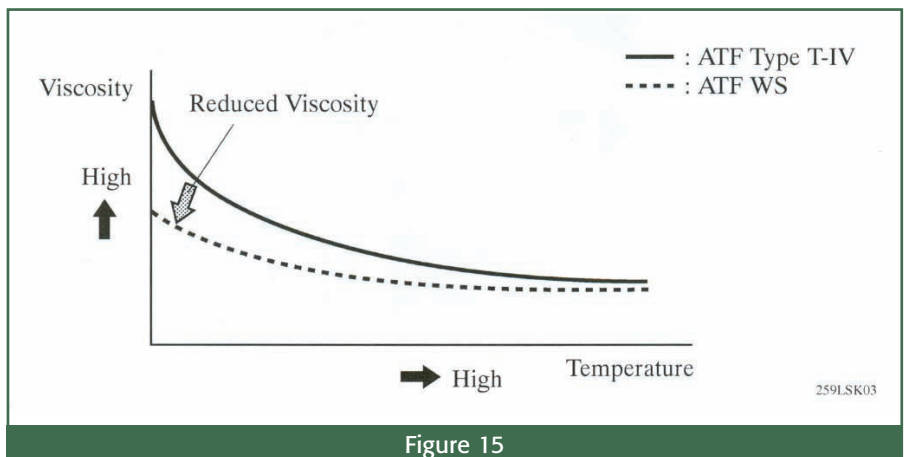

Figure 15
- ATF WS and other types of ATF (ATF Type T-IV, D-II) aren't interchangeable. See the reduced viscosity in the chart (figure 15).